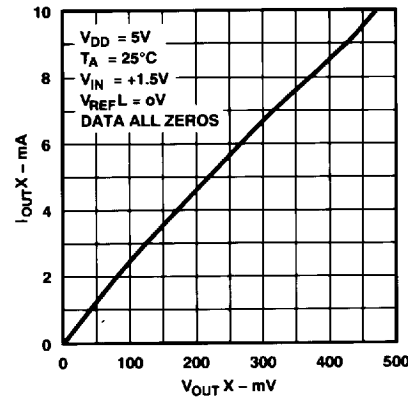

Figure 9. Zero-Scale Output Detail
**Operation Near ground** - The input stage of the internal buffer amplifier functions down to ground, but the output stage cannot pull lower than the internal ground voltage. When a DAC output tries to output a voltage at or below the internal ground potential, it saturates and appears like a 50  $\Omega$  resistor to ground. The typical saturation voltage appearing at the output is 20 mV, see Figure 9. The 100 mV worst case zero-scale voltage specification reflects this saturation effect, including the worst case anticipated variation of the internal ground resistances, quiescent currents and buffer sinking current. Linearity is measured between code  $8_{10}$  and code  $255_{10}$  to avoid this saturation effect. In summary, the transfer function of each DAC will be a straight line from code 8 to code 255 when  $V_{REF L} = 0$  V. For input codes 0 to 7, some DAC outputs will be saturated in the zero-scale output voltage region; therefore, changing digital code 0 to 1 may not change the output voltage when  $V_{REF L} = 0$  V.